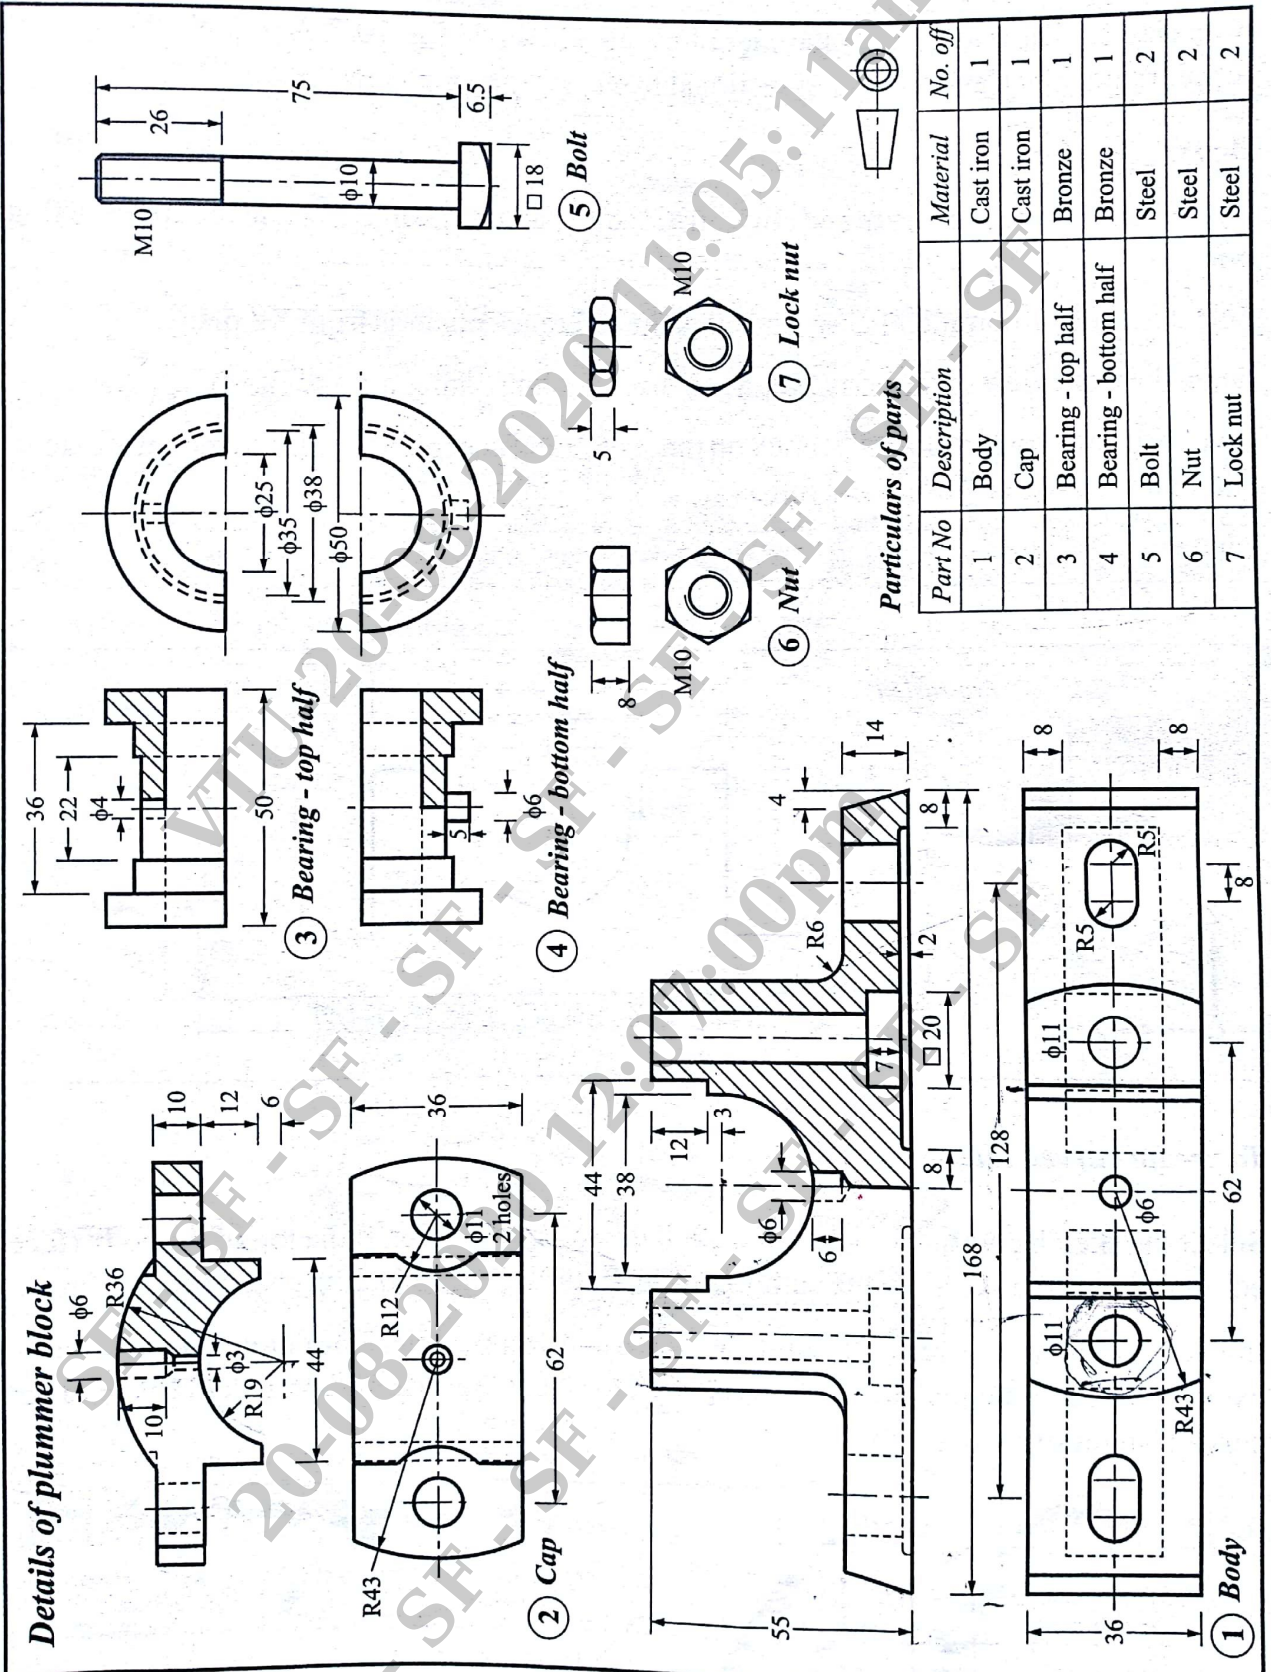

Figure 1: Details of Plummer Block
Q. No. 5 Figure: 1 Shows the details of "Plummer block". Assemble the parts and draw the following: a) Sectional front view b) Top view